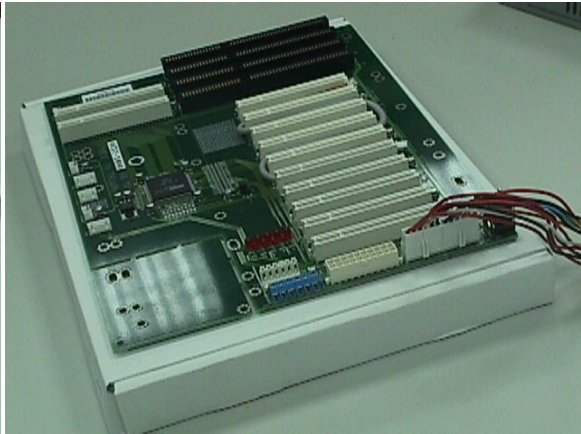

Fig.2
1. If you are using AT power supply, please apply the P8/P9 connector over P8/P9 connector (**Fig.2**).